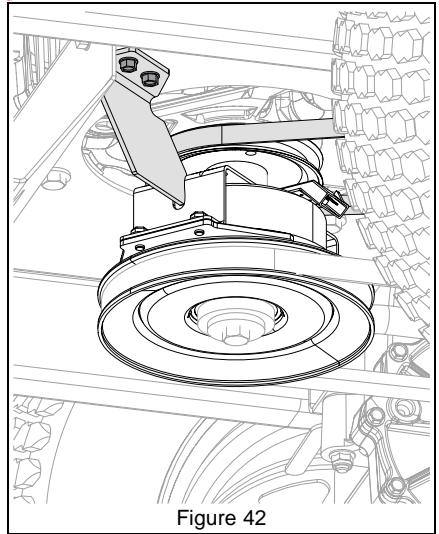

Figure 42
4. Reinstall clutch stop bracket and secure with original hardware. See Figure 42.